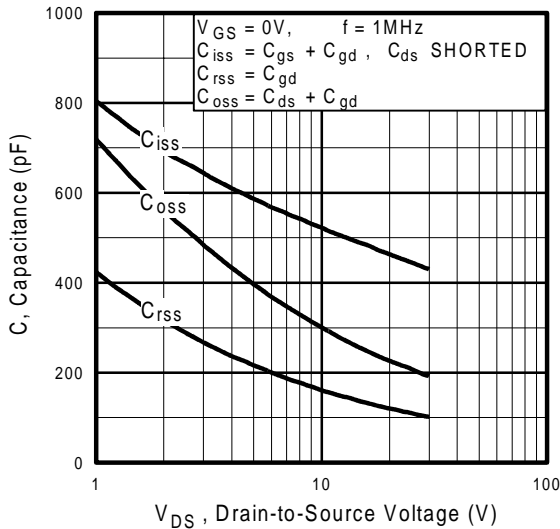

Fig 5. Typical Capacitance Vs. Drain-to-Source Voltage
| C_{iss} | Input Capacitance | — | 450 | — | pF | $V_{GS} = 0V$ $V_{DS} = 25V$ $f = 1.0\text{MHz}$, See Fig. 5 ⑦ |